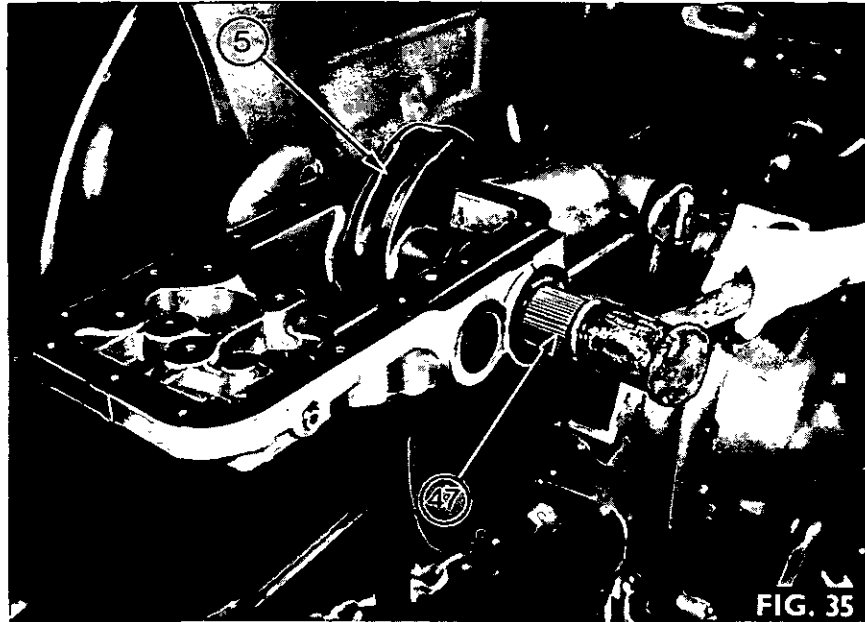

FIG. 35
13. Fig. 35. Drive the remaining lift arm and shaft (47) out of the lift cover and remove the ram arm (5).
3. Fig. 35. Position the ram arm (5) in the lift cover, apply Loctite Type AV or Casco Metalock ML15 to the threads, and screw the setscrew into the ram arm until engagement is made with the connecting rod, then slacken off the setscrew ¼ of a turn.
4. Slide the lift arm and shaft (47) with a new 'O' ring into the lift cover and ram arm (5), aligning the master spines on the shaft and ram arm.
8. Tighten the L.H. bolt so that the lift arms just move freely through their travel with no lift shaft (47) end float, and secure with a new tabwasher.